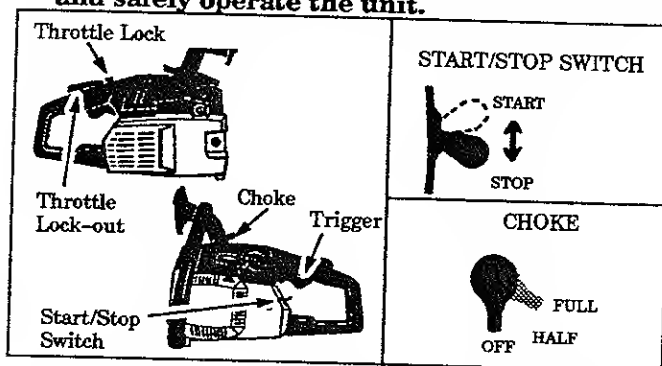

Figure 11
- b. Move Start/Stop Switch to the "Start" position. Figure 11.
- h. Stop the engine by moving the Start/Stop Switch to the "Stop" position. Figure 11.
- 1.) Move choke lever to full choke. Figure 11.
- 2.) Pull starter rope quickly with your right hand until engine attempts to start, then move the choke lever to the half position. Figure 11.
- 4.) Allow the engine to run for approximately five seconds. Then, push the choke lever to the off position. Figure 11.
- 1.) Leave choke lever in off position. Figure 11.
- 3.) Stop the engine by moving the Start/Stop Switch to the "Stop" position. Figure 11.
- 1.) Move the choke lever to full choke. Figure 11.
- 3.) Move the choke lever to off. Figure 11.